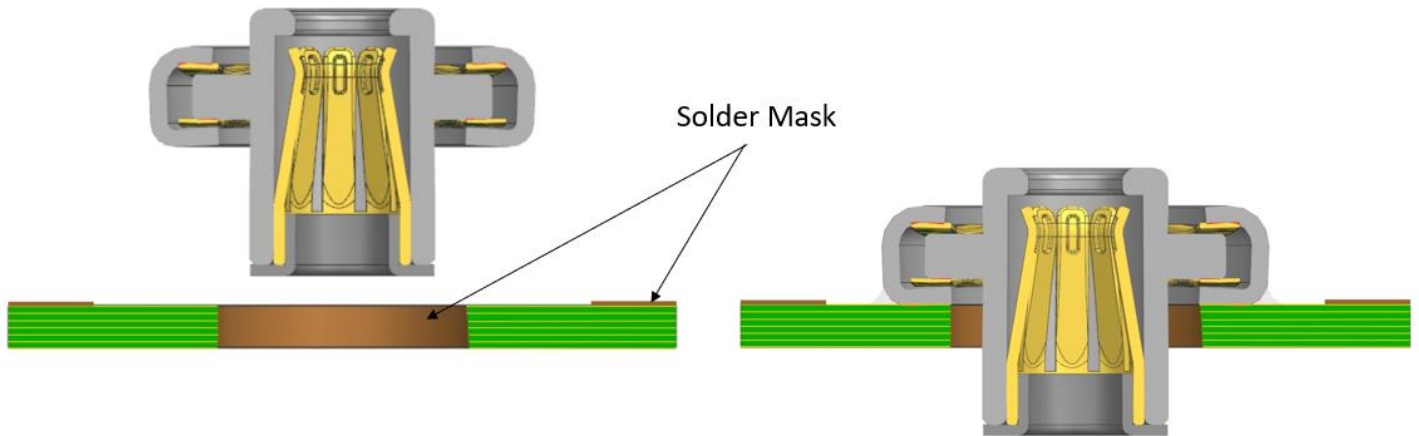

Figure 5.4.1
- a. It is recommended to use solder mask to cover the plated through hole and thermal vias to prevent the flow of the solder paste in the plated through hole and thermal vias region. Reference is show in the figure 5.4.1